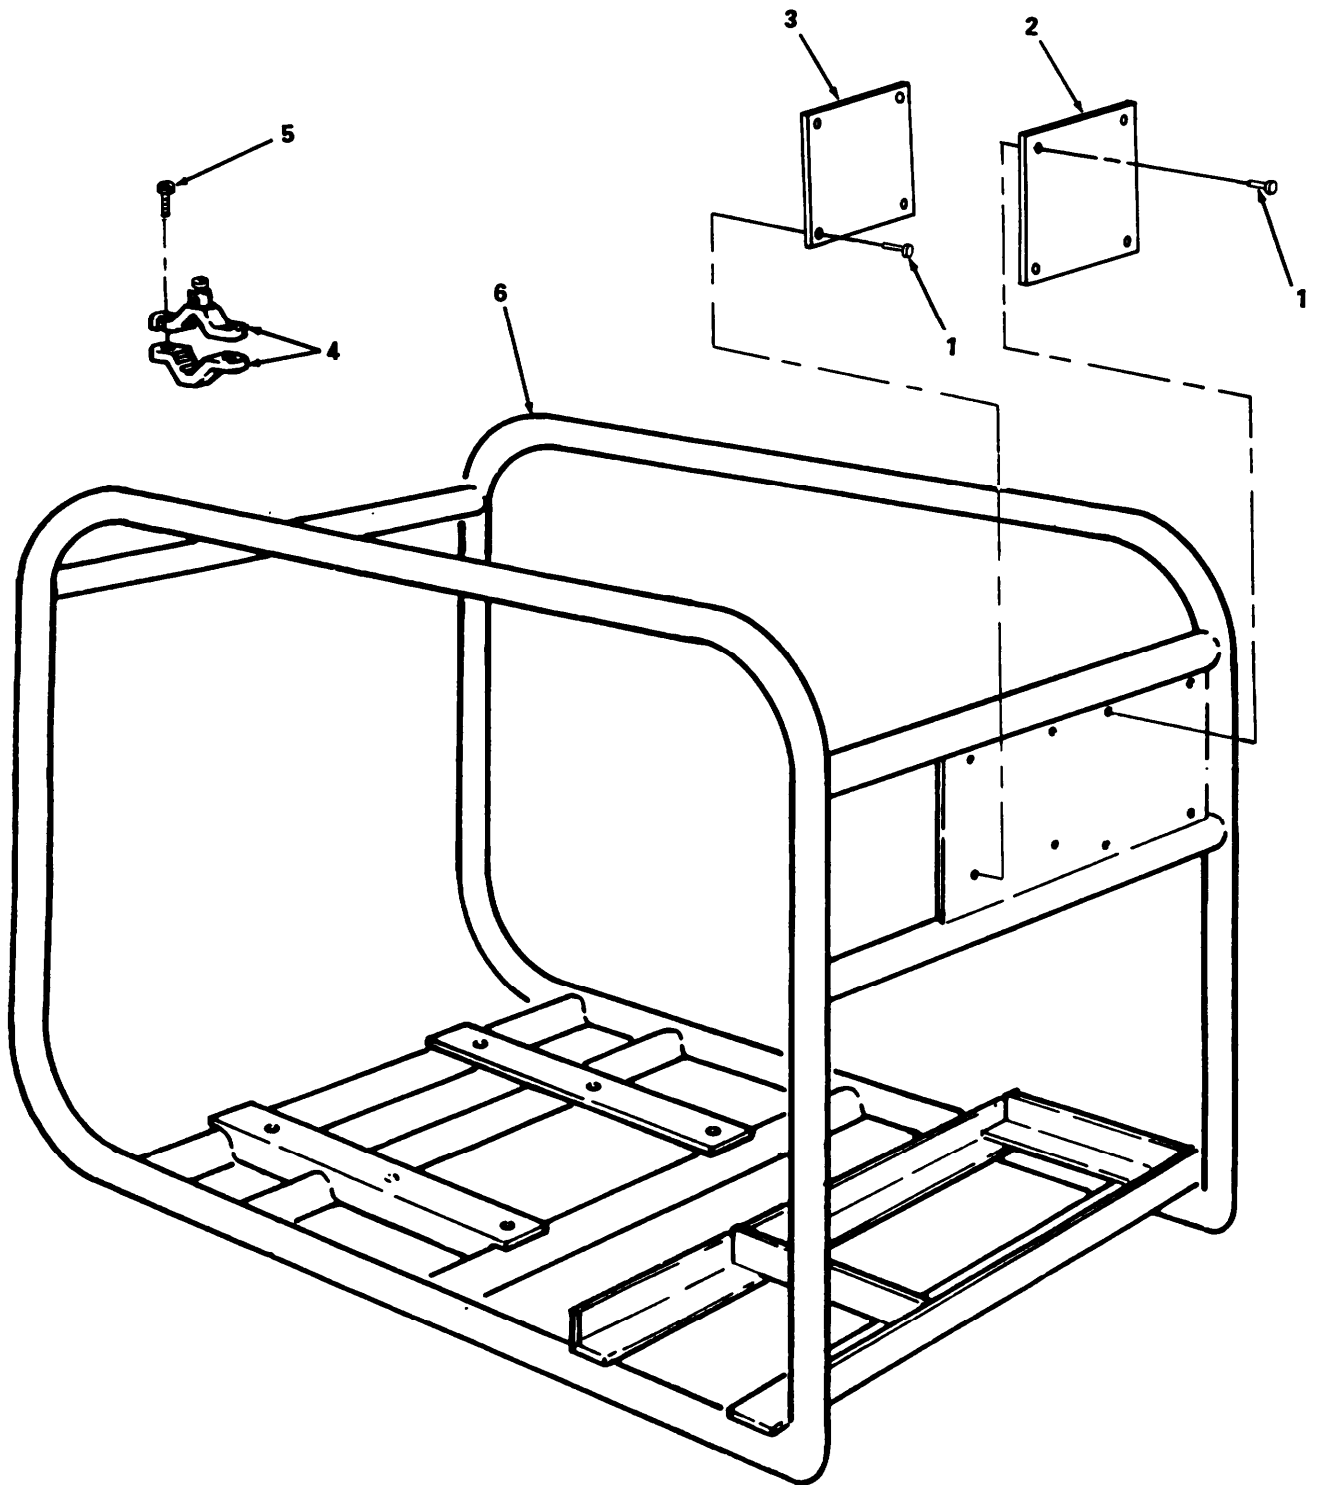

Figure 5-3. Frame, Disassembly Repair, and Assembly.
a. Disassembly. (figure 5-3)
- (1) Drill out eight rivets (1) and remove identification plate (2) and warning plate (3).
- (2) Remove ground cable clamp (4) by loosening two screws (5) and separating clamp (4) from frame (6).